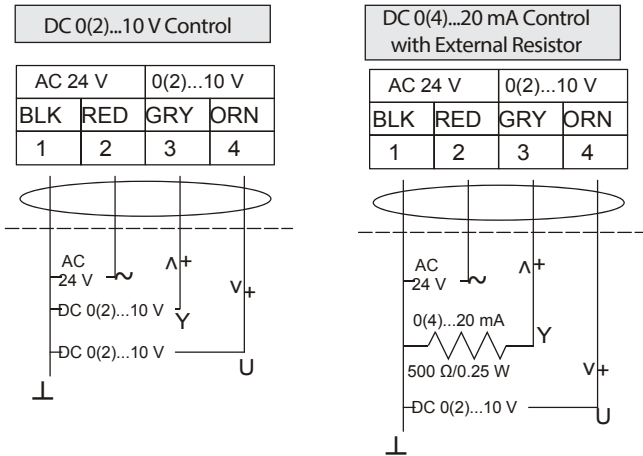

Figure 11: VAM24-35-P Control Wiring Diagram
The VAM24-35-P Series Electric Non-Spring Return valve actuators require AC 24 V power and a DC 0(2) to 10 V or 0(4) to 20 mA controller input signal. These electric actuators include an integrated 120 in. (3.05 m) long cable; see Figure 11 for proper wiring.